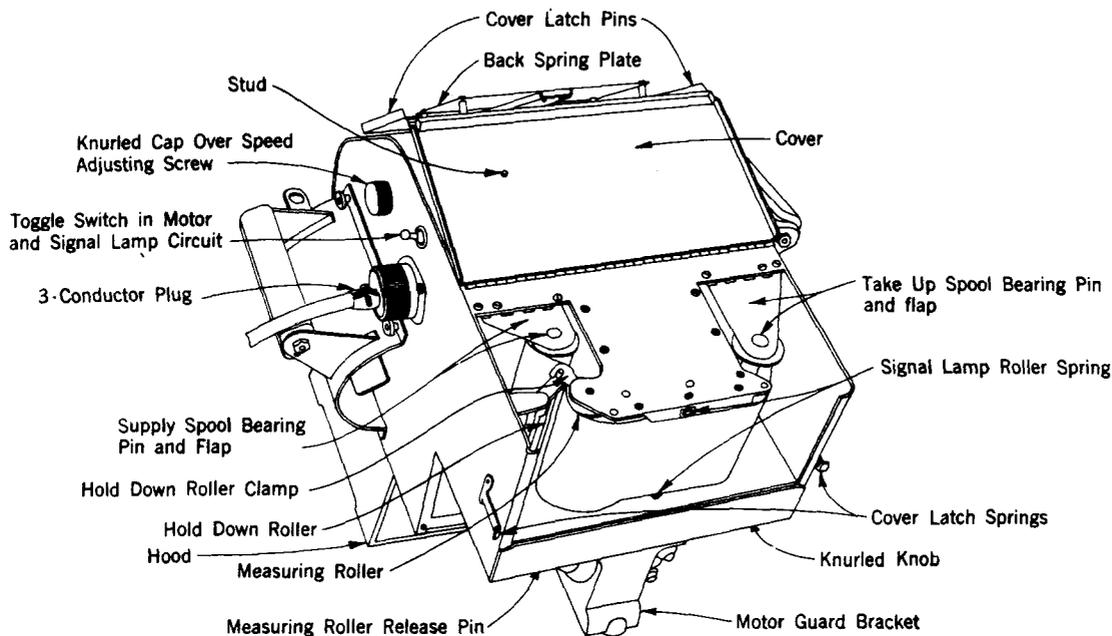

Fig. 1 – Rear View of Message Register Camera With Cover Open Loading the Camera With Film
3.08 Release the latches at the bottom of the camera and fold the back cover all the way up until it rests on top of the camera. Move the hold down roller clamp to the right and swing the hold down roller fully to the left. (See Fig. 1.) Lift the spool bearing flap to an upright position and remove the empty spool, if present, from the film chamber on the supply side, i.e., on the left.